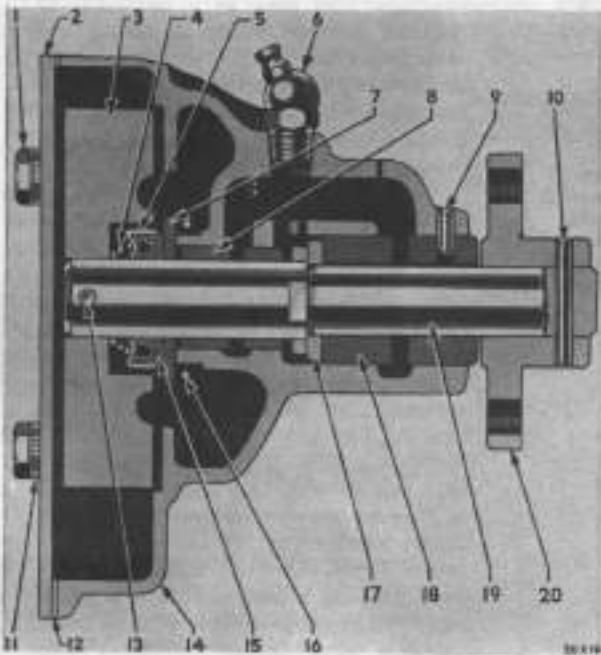

Fig. MH 234—Sectional view of water pump as used on Chrysler engine models T57, T81, T96, T-105 and T116.
127. To disassemble the bushing type pumps shown in Fig. MH 234, drive out fan pulley hub pin (10) and remove hub (20), using Chrysler Tool Number C-412. Remove rear cover and pull impeller (3) and shaft (19), as an assembly, out of pump body. Remove bushing lockpin (9) and using Tool Number C-373, press bushings (8 & 18), out toward the front. Assemble in reverse order, inserting pump shaft thrust washer (17) in pump body between front and rear bushing before front bushing is installed. Line burnish new bushings and reface seal seat, using a combination burnisher and